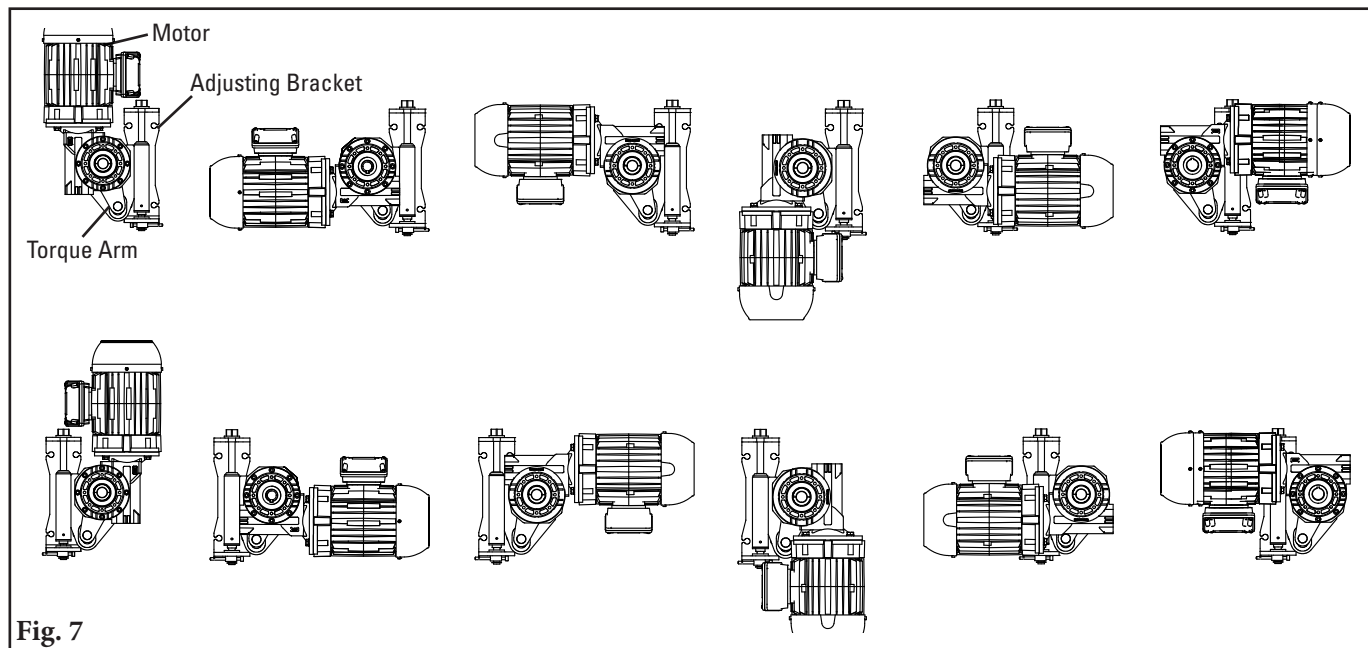

Fig. 7
7. **Determine desired motor mounting orientation.** The motor can be mounted in any of the orientations shown below (Fig. 7).